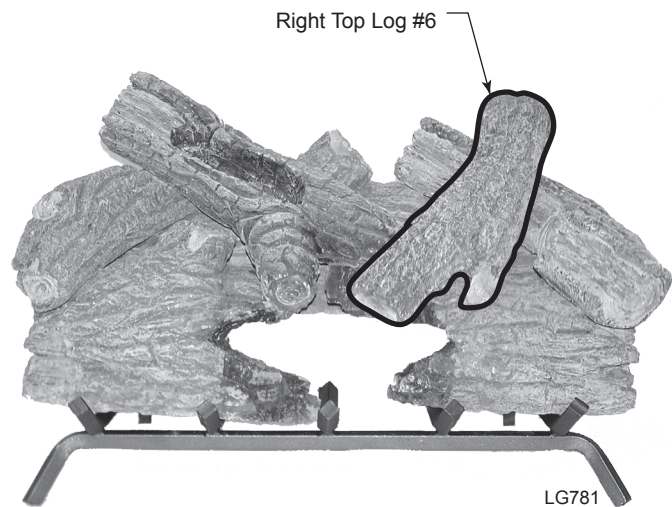

Figure 11 -
7. Install right top log #6 as shown. *Figure 11*